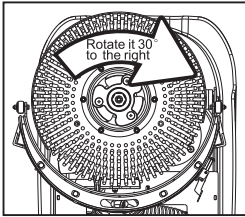
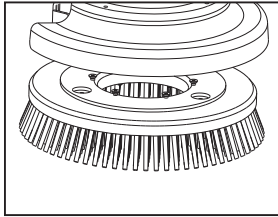

fig.15
fig.16
- ① Hold on the brush and rotate it 30° to the right to remove the brush(fig.15&fig.16), and then clean them.